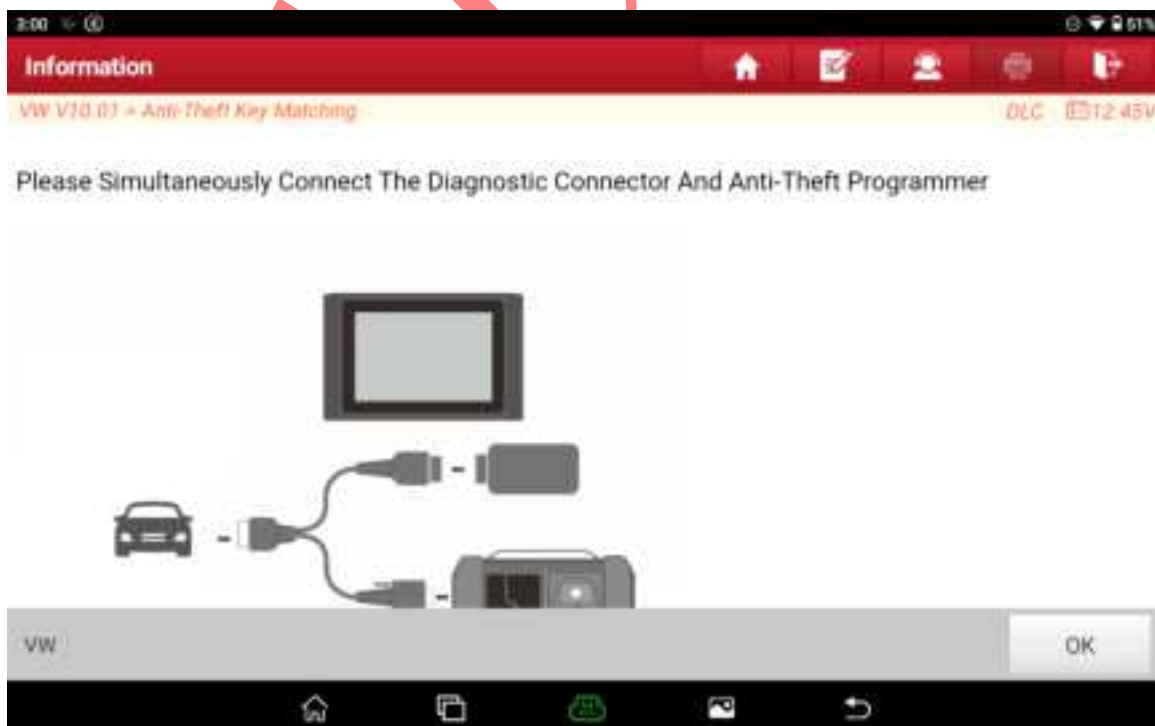

Figure 3
3. Connect the X-431 PROGIII and the connector, and choose OK, as shown in Figure 3.